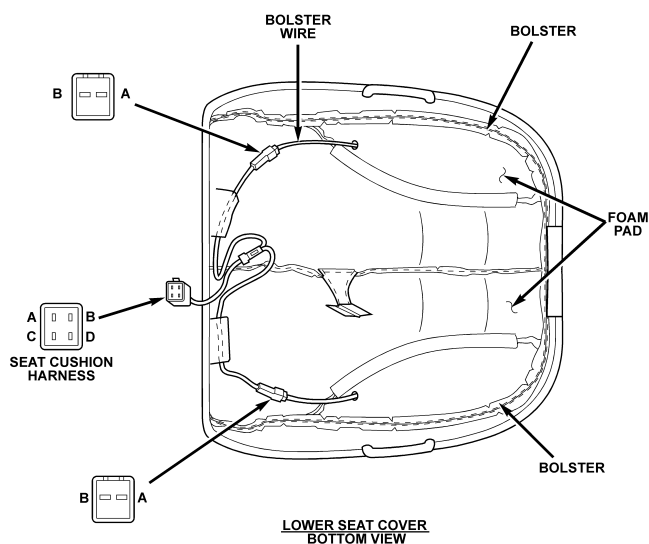

Figure 1
Disconnect the 4 way connector under the seat bottom at the rear of the seat. Check continuity between pins A and B with a digital ohm meter on the seat side of the harness (See Figure 1). The Resistance should be between .9 and 1.4 ohms. If the circuit is open, Perform the Repair Procedure. If continuity is present and the resistance value are correct and the heated seat is inoperative, further diagnosis is present. Refer to the appropriate service manual for diagnostics.
7. The system contains two heating elements per seat. Unplug the two wire connectors and check the continuity between the two terminals in each connector to determine which heating element is open (See Figure 1). The resistance should be .9 to 1.4 ohms. An infinite resistance indicates an open circuit. Each repair kit will repair one element. It is recommended that both elements be repaired even if only one is open.